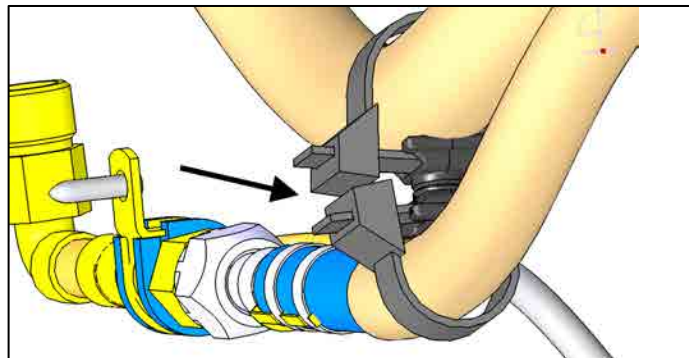

Figure 11
- Using a suitable cutter, cut the original high pressure hose (From step 3) to required length to install hose fitting. (Fig. 11)